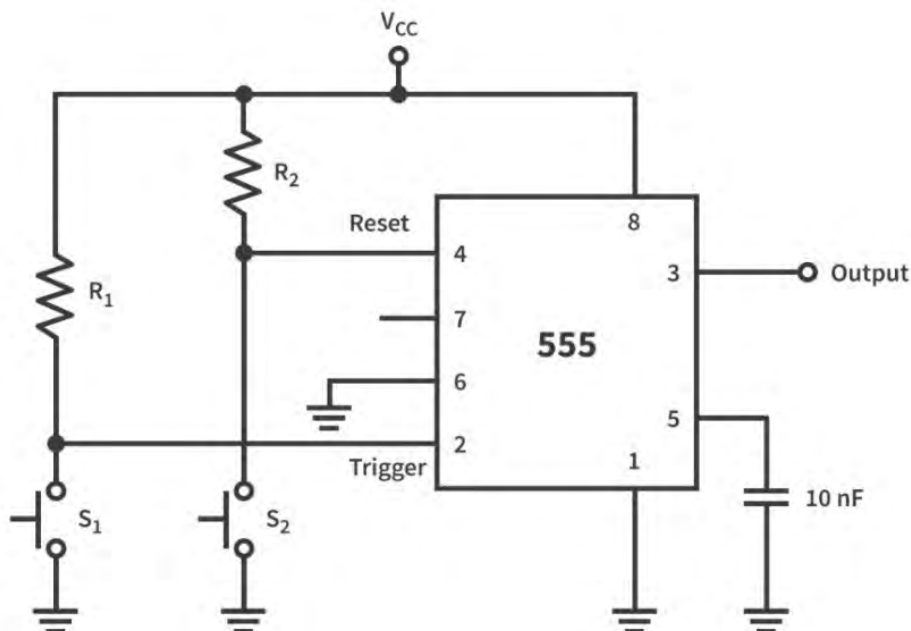

Figure 3.8b: Bistable mode with two push button trigger
Notice from the figure that there are no timing capacitors since it is only on or off. The set and reset conditions are obtained through a double throw switch. In the set state, a LOW signal is sent to pin 2 causing the output to change state. In the reset state, a low signal is sent to pin 4, causing the output to change state again. It is worth noting that the output pin 3 will be HIGH on boot up if pin 2 is LOW. The same results can be obtained by replacing the double throw switch with two separate push-button switches as shown in Figure 3.8b.
From Figure 3.8b, if $t_{off} = 12\text{ms}$ and $t_{on} = 17\text{ms}$, then the period (T) is $12 + 17 = 29\text{ms}$. Since frequency is $1/T$, then the frequency $= 1/29\text{ms} = 34.48\text{Hz}$.